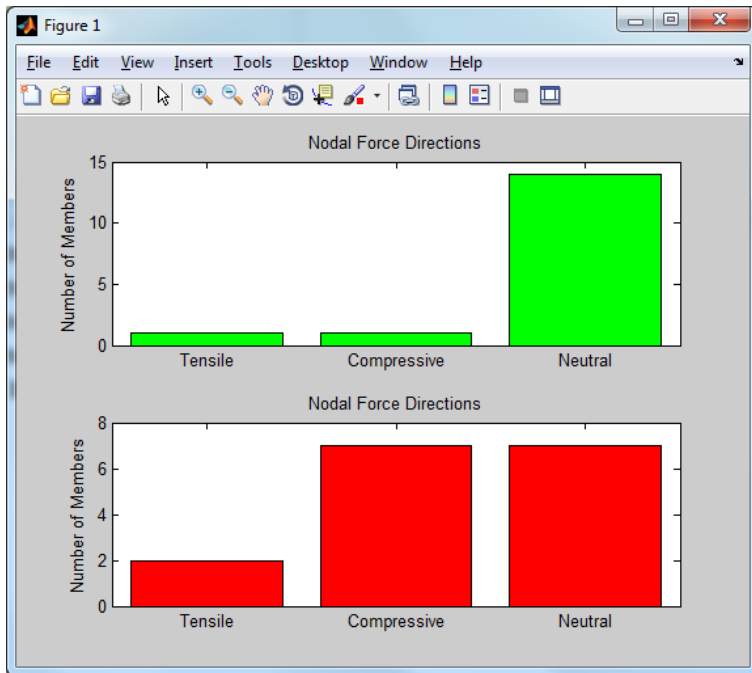

Figure 3
- A plot as in Figure 3 that contains two subplots.